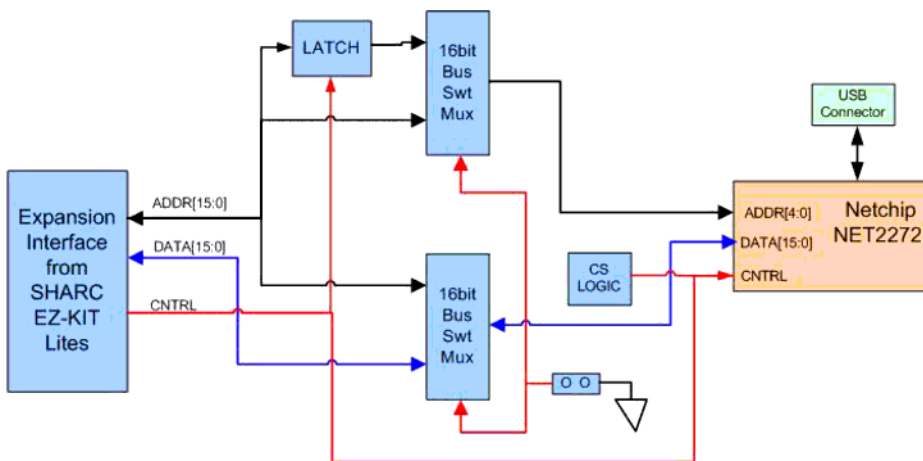

Figure 2-1. Block Diagram
4. Set the jumper on the USB EZ-Extender board. Use the block diagram in Figure 2-1 in conjunction with “Processor Select Jumper \(JP1\)” on page 2-2.
A block diagram of the SHARC USB EZ-Extender is shown in Figure 2-1.